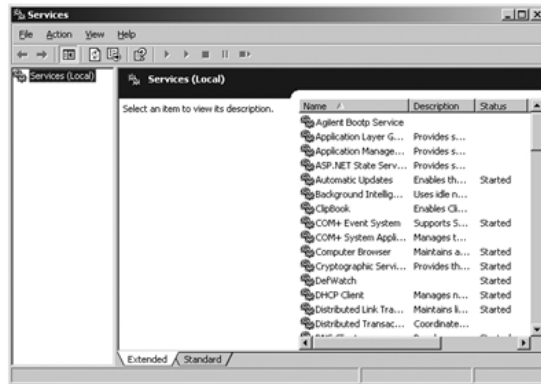

Figure 47 Windows Services screen
- 1 In the Windows control panel, select **Administrative Tools > Services**. The **Services** screen appears, see Figure 47 on page 285.